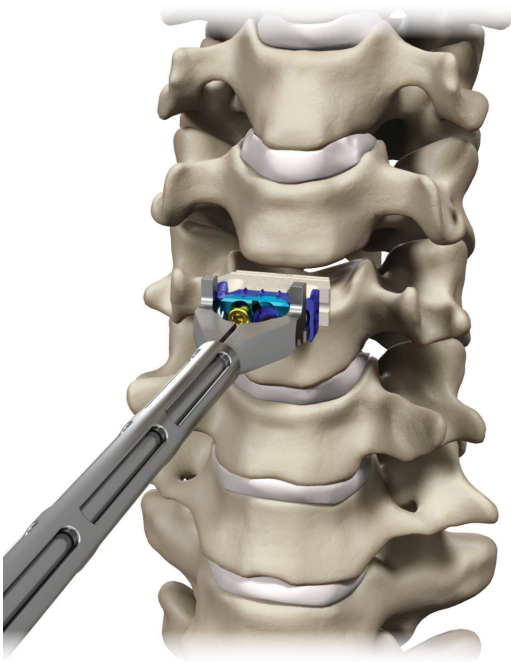

Figure 14
- Once the implant is securely attached to the inserter, insert the implant into the distracted segment. If necessary, use light impaction to advance the plate into the disc space (Figure 14).